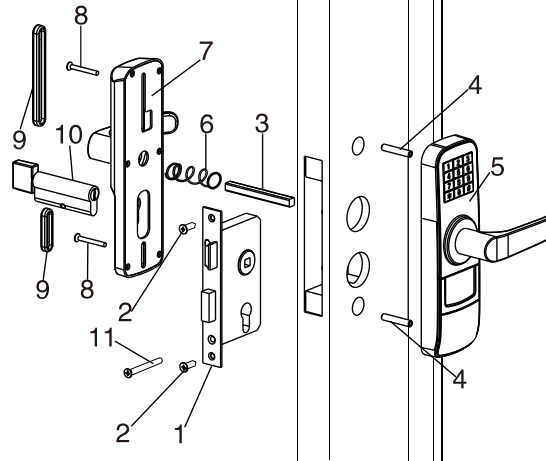

Figure 2
- ②. Install the lock body: (figure 2)
- ③. Install the panels: (figure 2)